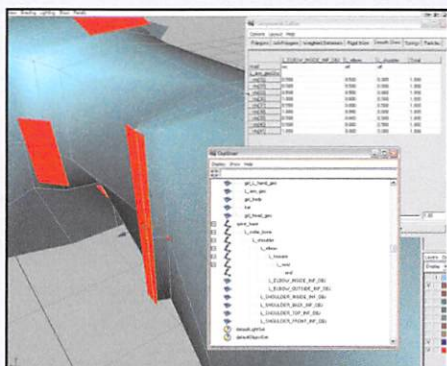

FIGURE 5- THE INFLUENCE OBJECT IS PULLED AWAY FROM THE ARM GEOMETRY JUST TO MAKE SURE IT'S WORKING CORRECTLY
9. Now I manually enter the weight values into the Component Editor, just as I did for the joints. I create a drop-off by sharing the weight values with the skeleton joints and other influence objects when appropriate. Generally for the vertices on the inside of the elbow, the middle row is set to 1.0 for the influence object. The rows on either side are split with 0.5 going to the influence object and 0.5 going to the closest joint. After I set these weights, I pull the influence object away from the arm geometry and make sure it's deforming these vertices correctly (see figure 5 Next Page).